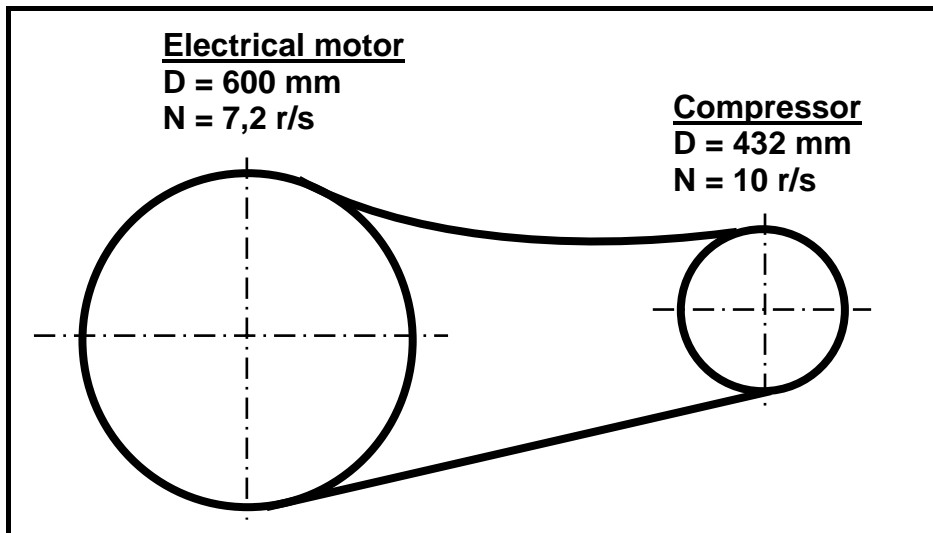

FIGURE 2.3
- 2.3 A compressor, fitted with a pulley, diameter 432 mm, is driven at a speed of 10 r/s from a pulley with a diameter of 600 mm on an electrical motor which rotates at 7,2 r/s. (FIGURE 2.3 below.) The maximum acceptable tensile force in the available belt is 300 N.